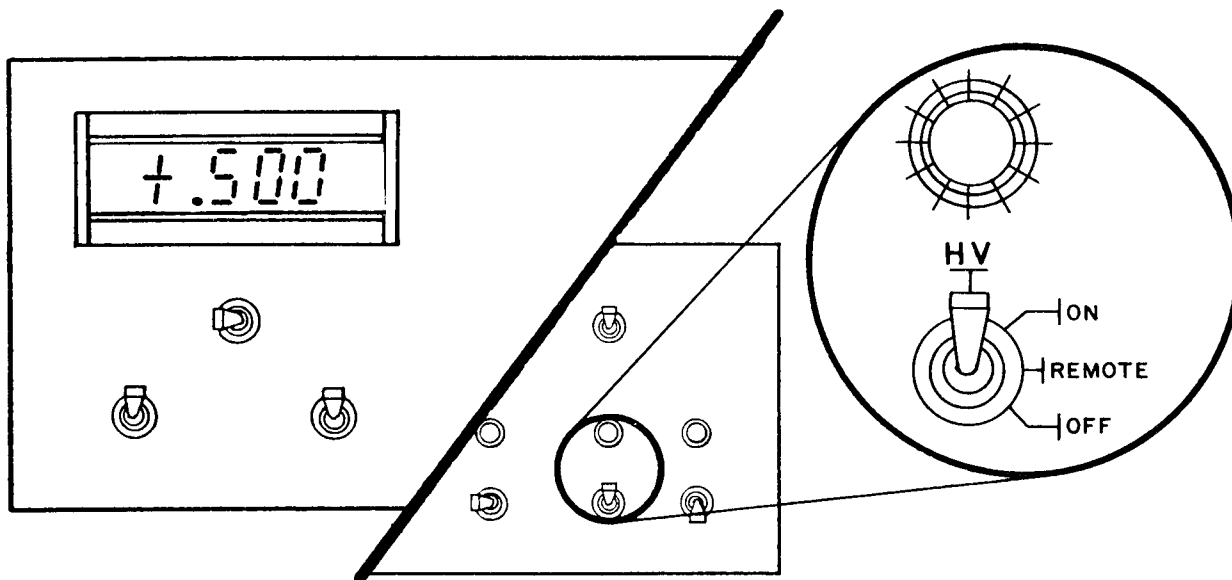

Figure 43. HV Switch to ON
- g. Wait thirty seconds after the POWER switch has been set to ON, then flip the HV switch to ON (see Figure 43). The DPM displays the magnitude of voltage between HV OUT and ground.